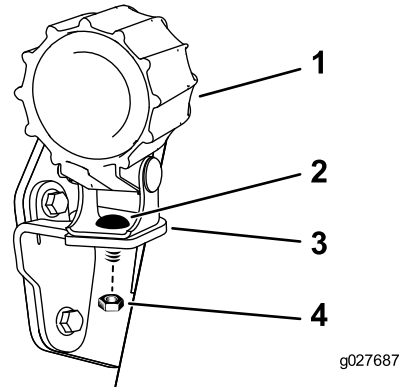

Figure 13
2. Remove the nut and bolt from each work-light assembly and secure them to the brackets as shown in Figure 13.